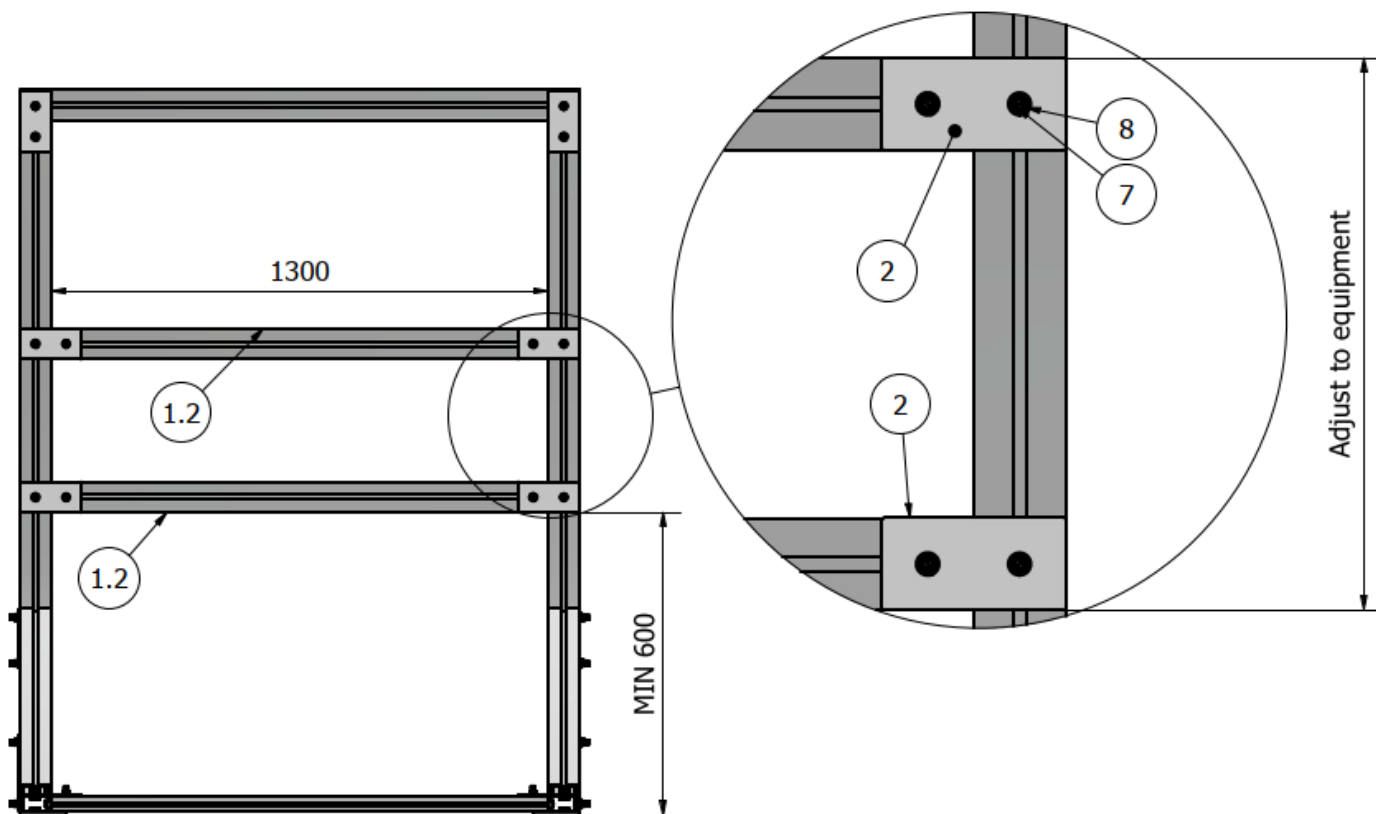

FIG. 9 Assembly of crossbars
9. Screw the crossbars **1.2** using the fasteners **2** as shown in Fig.9.